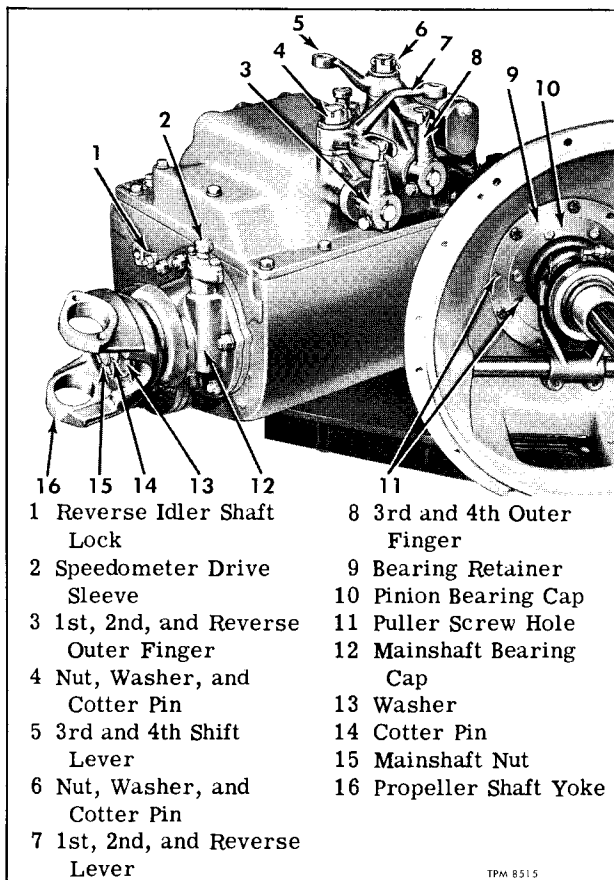

Figure 2—Transmission Showing Shift Levers and Propeller Shaft Yoke
The terms "Front" and "Rear" as used in this section do not refer to mounted position of transmission in coach. "Front" refers to the input or engine end of transmission while "Rear" refers to output or propeller shaft end of transmission. View of levers and propeller shaft yoke is shown in figure 2.
(42) is installed in bearing cap (34) and is held in place by sleeve (2, fig. 2).
External levers and fingers at transmission cover (fig. 2) are operated by transmission gear shift lever and linkage. Inner fingers (7 and 12) engage notches in shift forks. Three shift forks (1, 10, and 13) are clamped to shift rods (15, 16, and 17). Sleeves (5 and 9) on shift rods prevent overshifting, and spring-loaded poppet balls in cover engage notches in top of shift rods to lock the rods into proper position. Interlocks prevent lock-up of transmission by preventing engagement of two gears at once.
1. Place gearshift lever in neutral position and disconnect rods from levers on transmission (fig. 2).
3. With transmission levers (5 and 7, fig. 2) in neutral position, adjust clevises on bellcrank-to-transmission rods (22 and 23) so clevis pins